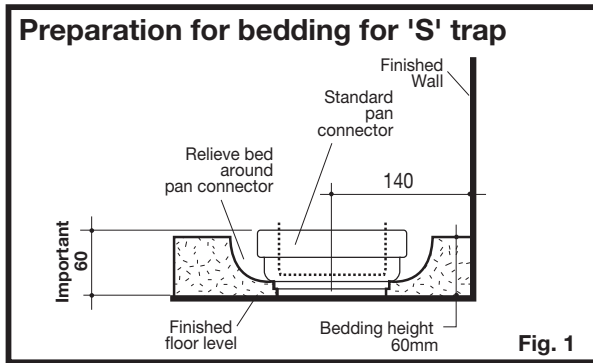

Fig. 1
The Profile pan 'S' and 'P' Trap installations are detailed in Fig 1 & 2. The recommended set-out for 'S'-Trap installations is 140mm from the finished wall. It is important to position the pan collar 60mm max. from the foot level of pan as detailed in Fig. 1.
- 3- Prepare bedding sand cement mixture 3:1 to depth of 60mm as detailed in Fig.1.